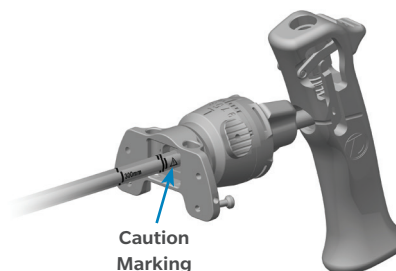

Figure 3
**ⓘ Note:** If desired, align the depth markings on the IM rod with the flat plate of the adjustable valgus guide to set the IM rod at a specific length. Inserting the IM rod beyond the double line marking, indicated with caution symbols, may prevent assembly of the modular handle to the IM rod (Figure 3).